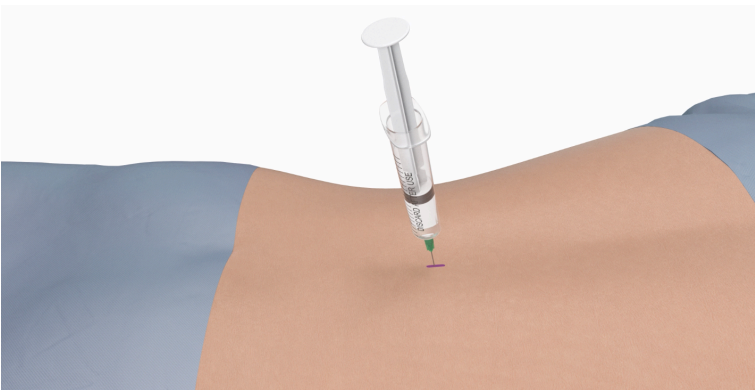

Figure 2
2. Prepare the incision and needle entry sites by administering local anesthetic. Apply as needed through procedure (see Figure 2).